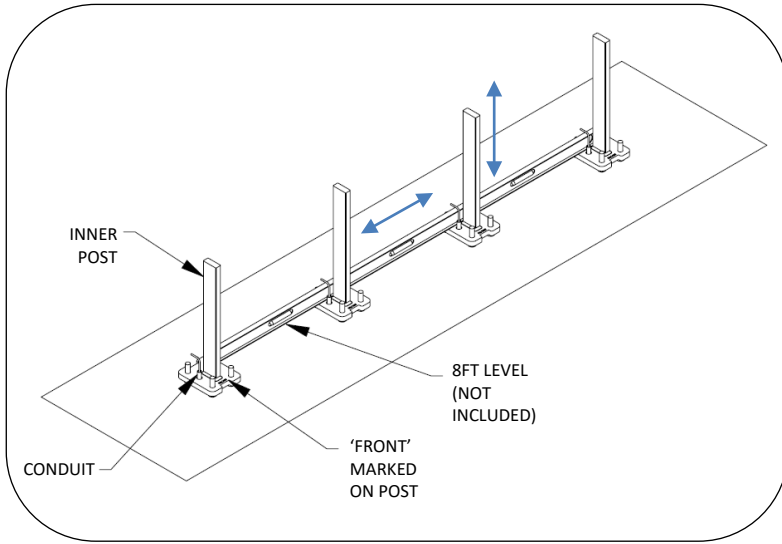

FIG. 5 – INSTALL INNER POSTS AND LEVEL
5. Install inner post over anchors, pulling wiring (if specified) through post as it is lowered onto anchors. Do not pinch wires. Note orientation of post for front of unit, see Fig. 5. Repeat for multi-posts units.